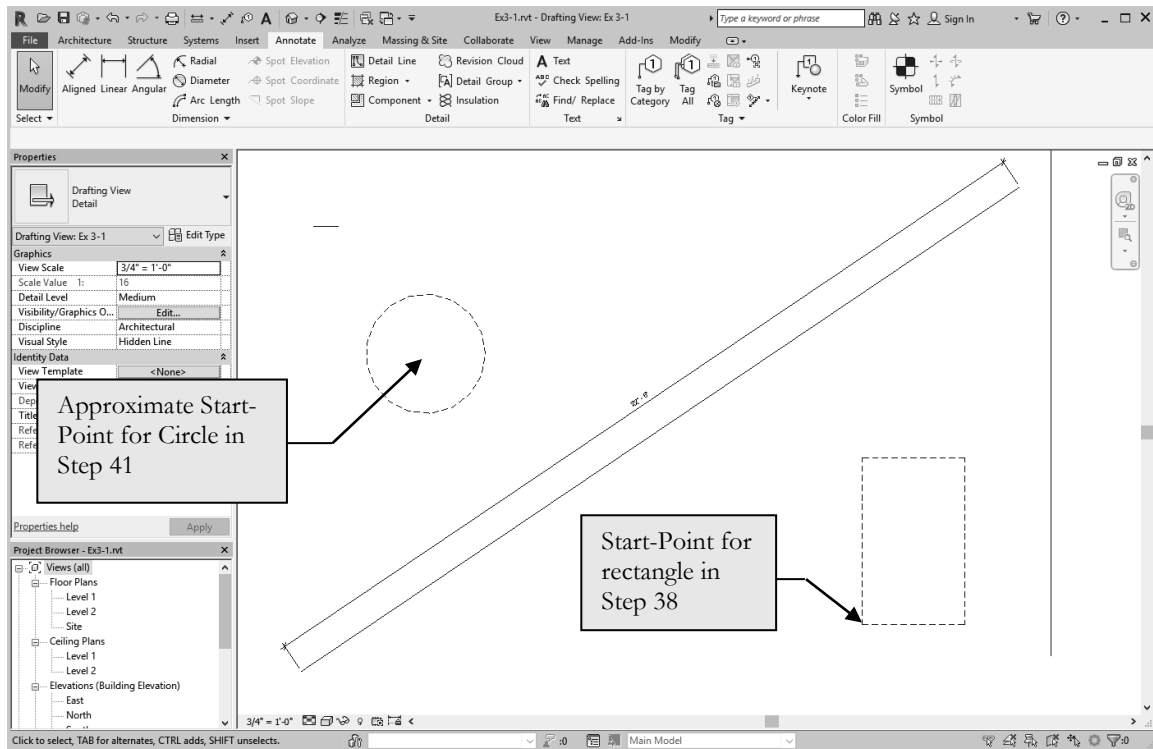

FIGURE 3-1.15 Drawing with Rectangle and Circle to be added (shown dashed for clarity)
38. Pick the “**first corner point**” somewhere near the lower center of the drawing window (Figure 3-1.15).
41. You are now prompted to pick the center point for the circle; pick a point approximately as shown in Figure 3-1.15.